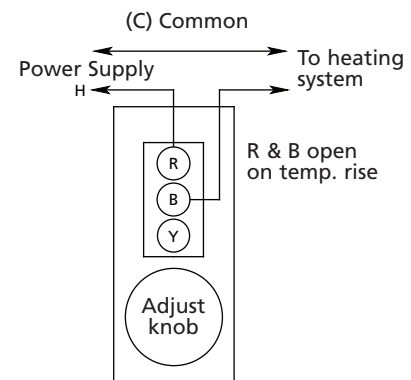

Figure 4 – Connection for a Typical Heating Control Circuit
**IMPORTANT**: All wiring should be done in accordance with applicable codes, ordinances and regulations. Use disconnect device and overload protection to assure safe installation complying with local and national codes. Figures 4, 5 and 6 illustrate typical wiring for control of heating, cooling, refrigeration, and combination heating/cooling control systems (copper conductors only).